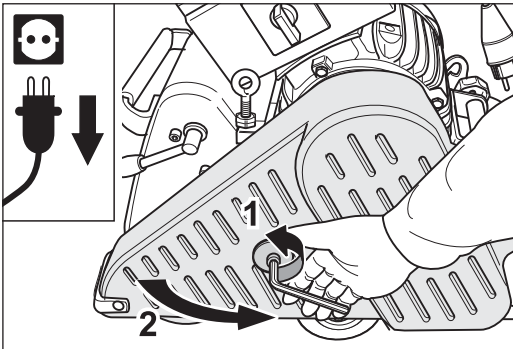

Fig. 1 Pull the power plug out of the socket and open the belt guard.
- 3 Open the belt guard (fig. 1)